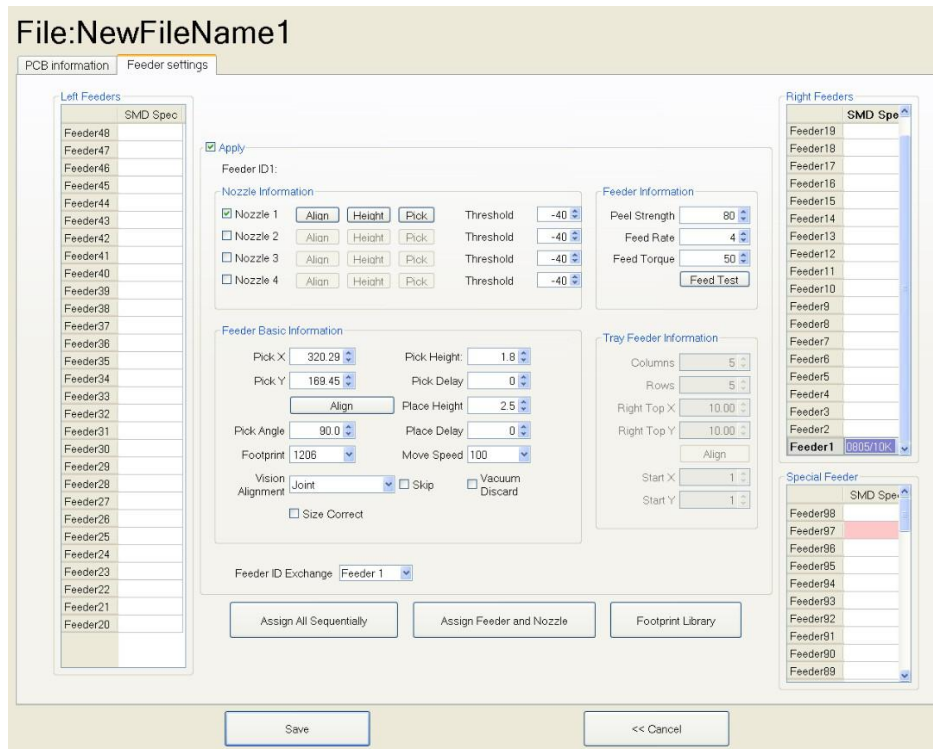

Figure 4.11
- (1) Feeders Arrangement: Left Feeders (Feeder20-48), Right Feeders (Feeder1-19), Special Feeders (Feeder49-98). Above feeders' setting is under the ideal situation. According to the Required Tape's width from customers, the quantities maybe be cut down. For example, if there are a lot of components' information under the "Chip List" item, choose the feeder number and you will find the drop-down symbol, will display all components' specifications by click it. Select one specification and one less in drop-down list, can do same operation in every feeder.
- (2) Feeder Configuration: Select one feeder, tick the item "Apply", all configurations will be unlocked for this feeder, then can-do amendment. Total have five items: Nozzle information, Feed-box information, Feeder basic information, Tray feeder information, Feeder exchange. One item will be always locked for Feed-box information and Tray feeder information according to the differences of components. Operation sequence: Feed-box information (Tray feeder information)—Feeder basic information—Nozzle information—Feeder exchange (used if placed wrong tape). See the Figure 4.11.